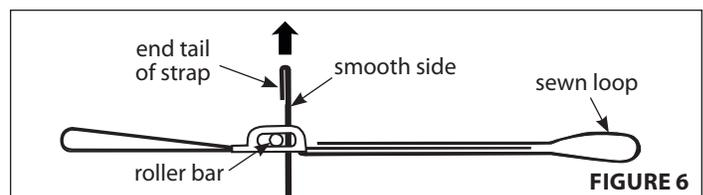

FIGURE 6
2. Feed end tail of strap up through the bottom of the float buckle on the sewn loop side of the roller bar. **SEE FIGURE 6.**